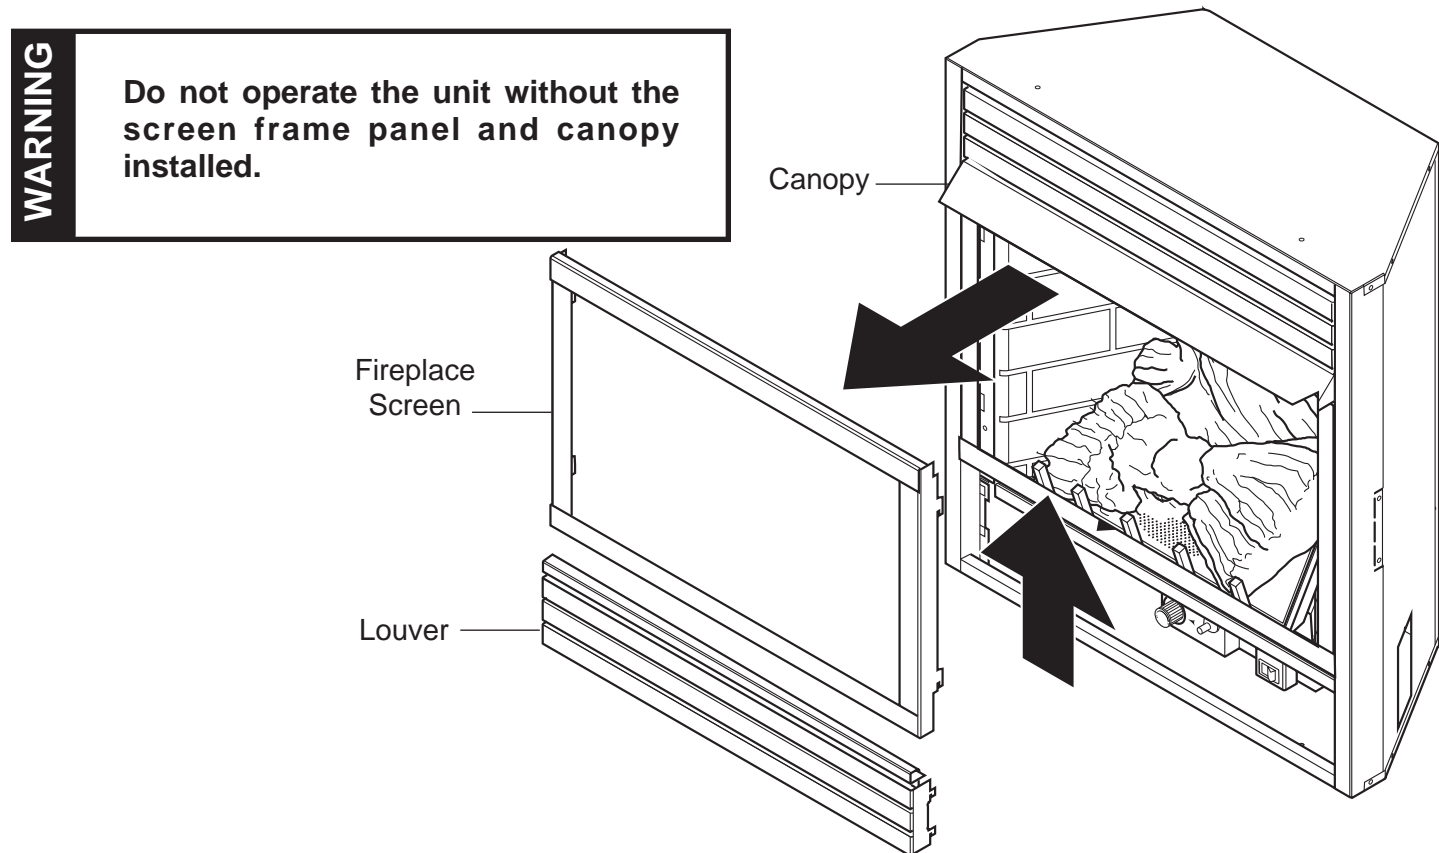

**Figure 13 - Securing Trim to Heater with Four (4) Screws Provided**
7. Align holes in assembled trim with holes in side of fireplace. Using a Phillips screwdriver, attach trim with four (4) screws provided — two for each side of fireplace. Tighten snugly. See Figure 13.